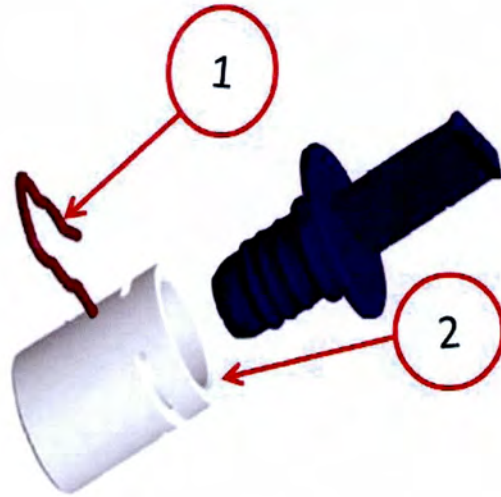

Fig. 7 Clutch Cap
7. Install the retaining clip onto the new cap part number 68166291AA (Fig. 7).